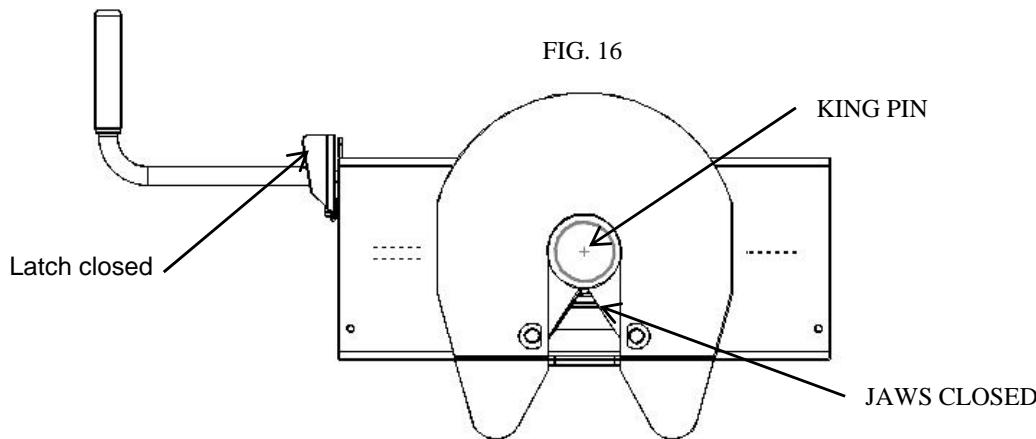

**Fig. 14
6. With all trailer wheels still firmly blocked, landing gear still resting on firm ground and supporting trailer weight, and truck stationary and in park with emergency brake on: visually check that bottom of pin box is resting on top of the hitch. THERE SHOULD BE NO SPACE BETWEEN THESE SURFACES (See Fig. 14). If space exists, (See Fig. 15) trailer has not been properly hitched. DO NOT TOW! Instead, repeat above steps until trailer is properly hitched. **DO NOT PLACE BODY UNDER TRAILER TO PERFORM THIS INSPECTION!**